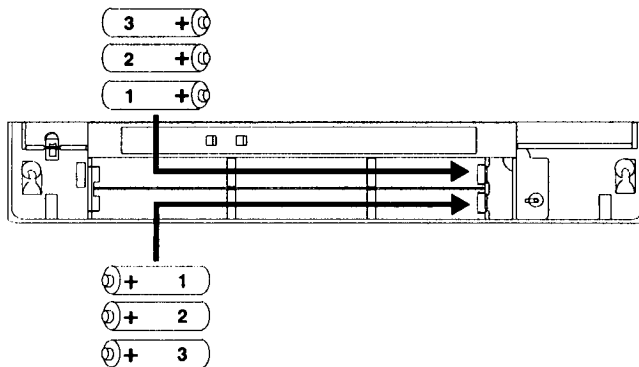

Figure 5. Battery Polarity and Order of Installation
5. Insert appropriate new batteries in the order and direction shown in Figure 5.